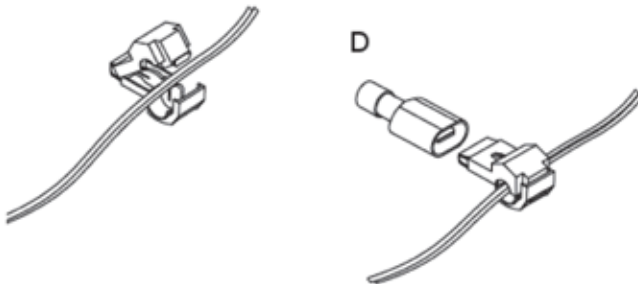

Figure 2: T-Tap Connection to Trigger Wire
- Using a multi-meter or test light find the active high beam switching wire located on the back of the head light. Connect "Tee Tap" connector onto this wire, refer to figure 2
- Fit the switch wire to the "Tee Tap", strip 5mm of the insulation from the red wire (D) and crimp pink blade terminal to the end. Plug it into the "Tee Tap"